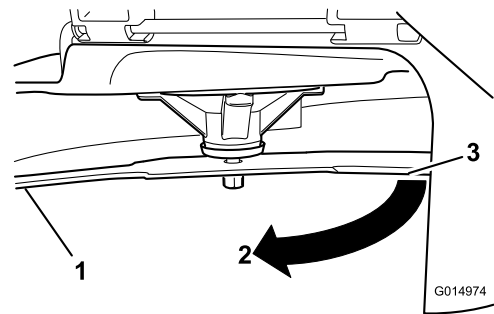

Figure 81
3. Measured distance between blade and the surface (A)
4. Rotate the same blade 180 degrees so that the opposing cutting edge is now in the same position (Figure 81).